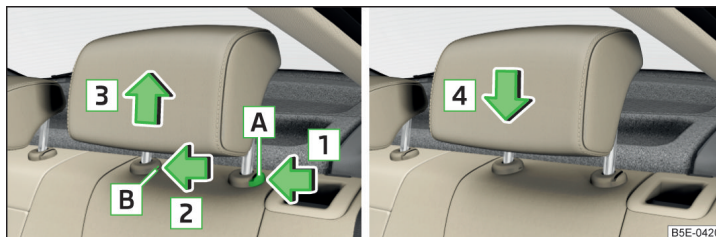

Fig. 94 Removing/inserting the rear headrests
- ▶ Hold the locking button **A** in the direction of arrow **1**, at the same time using a flat screwdriver with a max. width of 5 mm to press the locking button in the opening **B** in the direction of arrow **2** and pull out the rest in the direction of arrow **3** ▶ Fig. 94.